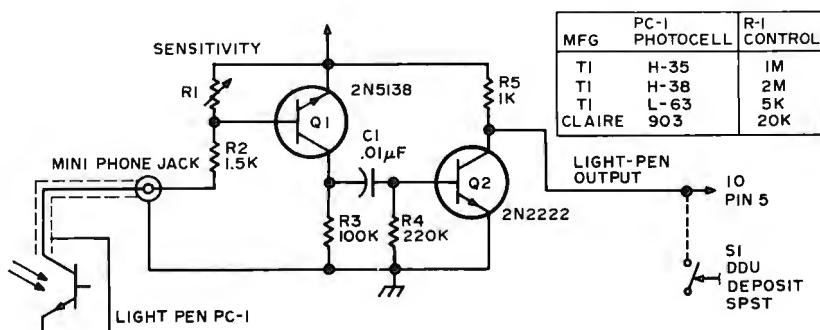
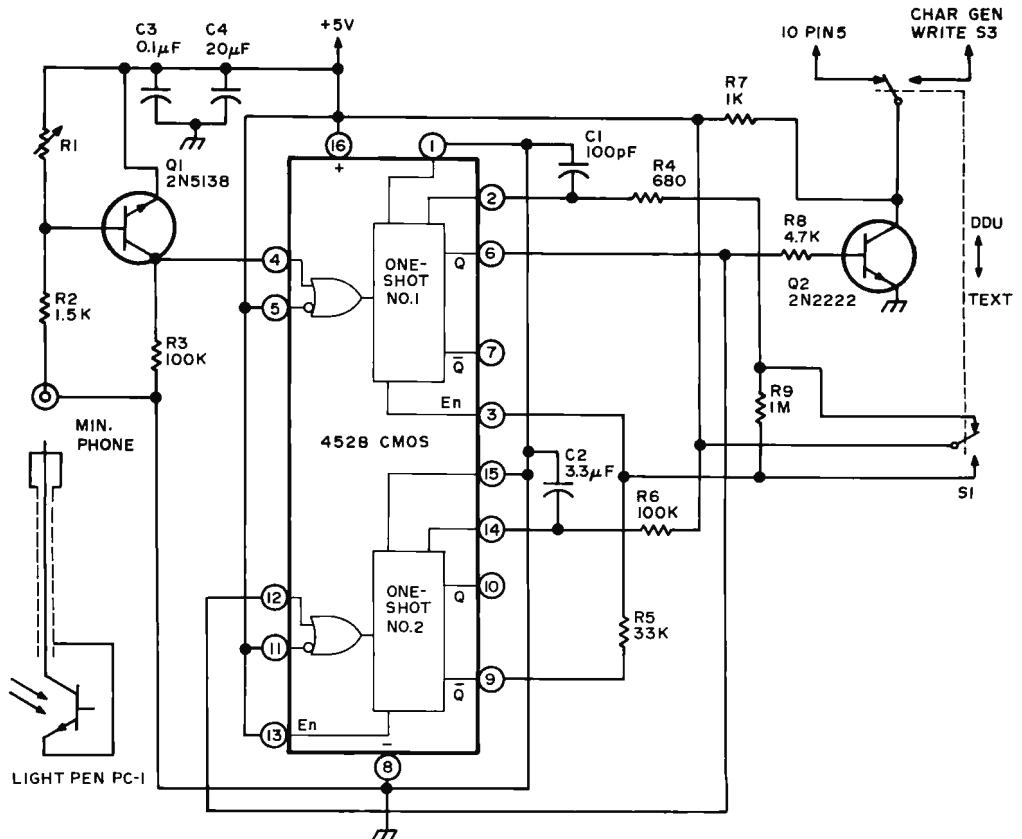

Figure 1: The simple version of the light pen can be constructed according to this schematic. All resistors  $\frac{1}{4}$  W.
Figure 3: By adding a pair of oneshots to the circuit, the ability to draw pictures is improved through a short data lockout period which avoids smearing.
Figure 1 illustrates the simple light pen circuit. With proper adjustment of the sensitivity control (and possibly the brightness control), the photocell in the tip of the light pen will sense the moment in time when a dot is written at the particular location of the light pen. At this instant, the photocell will conduct, biasing the PNP transistor which causes a short pulse to be conducted through capacitor C1 to the base of the NPN transistor Q2. If the pulse is greater than .6 V, this transistor will be driven into saturation, and the light pen output will fall to .3 V. This output line is the connected to pin 5 of the oscilloscope graphics unit which writes a 1 or a 0 bit (dot or no dot) at precisely the instant that the dot position touched by the pen was addressed.
The circuits just described will probably suffice if you wish to use the light pen only for occasional correction of data. If you plan extensive and detailed work, such as cartooning or statistical data entry, a modification of the circuit will allow you to tailor the light pen's response to your own particular needs and system speed. The circuit shown in figure 3 is similar to the one shown in figure 1. However, it includes two oneshot multivibrators (contained in one CMOS DIP). The first one produces a constant amplitude pulse of approximately 200 nsec duration which is sufficient to bring about the storage of a 1 or 0 bit in most versions of the 2102 memory (ICs 11 to 14 in the oscilloscope graphics interface). The second one delays the generation of another write command for .25 sec, giving the operator sufficient time to withdraw the pen from the screen or move to a new location, before a double or multiple dot can be drawn. Once the two pulses have been timed in accordance with a given system speed and the operator's writing speed, it becomes very easy to draw detailed images with the light pen.
In figure 3 resistor R4 and capacitor C1 control the length of the write pulse, and resistor R5 and capacitor C2 control the wait time. For the 4528 CMOS oneshot, the time of the pulse ( $T$ ) measured in microseconds is a function of resistance ( $R$ ) and capacitance ( $C$ ) measured in ohms and microfarads, respectively, as follows:
The circuit shown in figure 3 also includes a switch and connections for using the light pen with the author's text display and editing system. Exact details for this connection are not given here, as they will differ with the type and construction of the text display system. I found, however, that the shift register type memories commonly used in these systems require a much longer write pulse than is necessary for the 2102 memories. It was also desired to eliminate the holdoff circuit (second oneshot) for this application. These changes are accomplished with switch S1 and resistors R9 and R5. If these features are not desired, it is recommended that R9 be replaced by a wire, R4 changed to 4.7 kΩ and C1 to 20 pF.
As is shown in the table accompanying figure 1, several different types of photocells are suitable for use in the light pen. The Texas Instrument (TI) type H-35 or H-38 is a very small device with a built in lens. These were originally designed for use in punched tape and card readers, thus the small size. Their size, sensitivity, and restricted field of view make them ideal for this application. The high impedance of these devices, however, makes them somewhat slow for this application, particularly at low brightness levels. The slow response time limits their use at the faster scan rates, and complicates the smearing mentioned earlier. Another device, the L-63 type which is available from Radio Shack (276-140 infrared detector), was found to be considerably faster. Being a much larger device, however, it has a larger field of view, and much of its speed advantage is lost to optical smearing. Models of both photocell types were built and tested by me, with only slight preference for the H-35. With some careful masking, and possibly the addition of a small, short focal length lens (e.g., Edmund Scientific number 12050 cylinder lens, or a small drop of clear epoxy), this photocell will probably perform better than the H-35 for this application. The Claire types 903 and 903-L were tried with only fair results.
If you are using the simple circuit of figure 1, the parts can be assembled on a small turret terminal board available at most electronic supply houses. This assembly is shown in photo 6. The circuit of figure 3 can be assembled in the same manner with the addition of a 16 pin DIP socket. R4, R5, C1 and C2 should be mounted in such a manner that they can be changed easily (Cambion 601-1512 component clips are useful here).
Photo 7: Using the improved circuit of figure 3 reduces much of the over-writing of multiple dots which occurred using the original circuit of figure 1. This is an enhance mode picture.
Photo 8: This illustrates a cartoon drawn using the erase mode of operation with the improved circuit of figure 3.